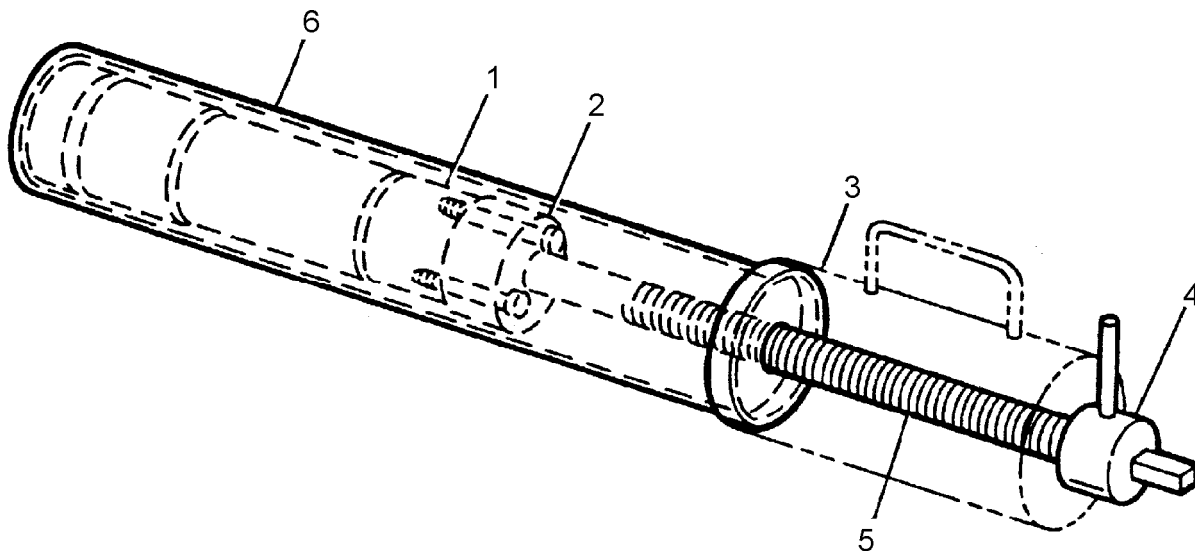

Fig. 14.35. Pivot Shaft Removal Tool
3. Remove the transmission guard for access to pivot shaft lock pin from underneath the machine. The lock pins are located at lower corners on front wall of the rear frame. Remove the pin plug (3) and remove lock pin (2) with a slide hammer end 3/4 in. NC adapter or a hydraulic ram end 3/4 in. NC threaded rod.
4. Install adapter plate (2, Fig. 14.35) to pivot shaft with three 3/4-16 x 3-1/2 in. socket head bolts and thread ram screw (5) into the adapter. Position tube assembly (6) over ram screw and pivot shaft and against rear frame. Install 100 ton ram (3) over ram screw and against tube assembly. Lock ram screw with speed nut (4).